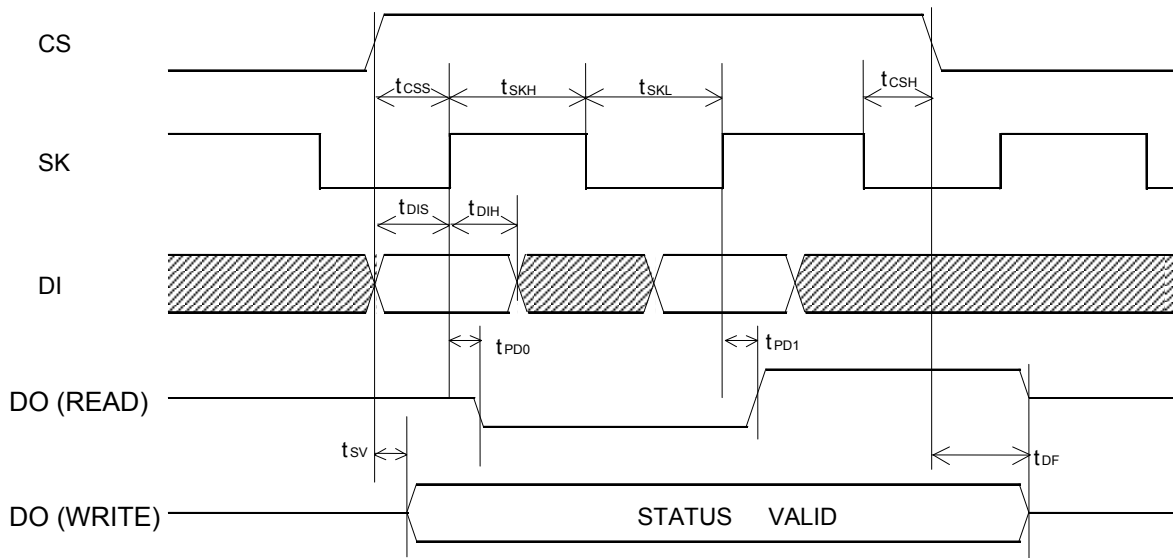

Figure 3: Synchronous Data Timing
The BR93□□ has a seven instruction set, shown in Tables 6 and 7. The timing charts depicted in Figures 3 to 10. Input Data are clocked in from Serial Data Input (DI) at the rising edge of the Serial Clock (SK), while output data from the Serial Data Output (DO) toggles at the rising edge of the Serial Clock (SK) during READ mode.